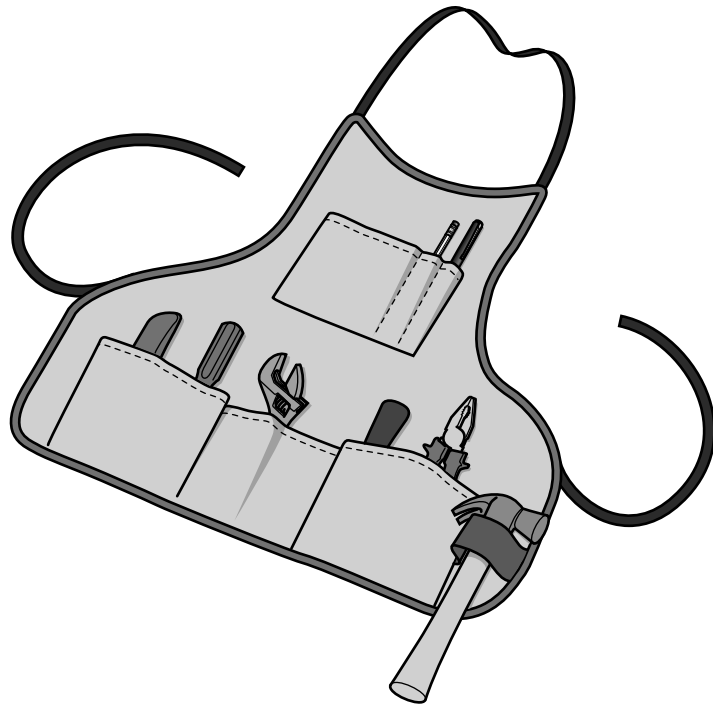

Fig. 12
Fig. 12 shows a work apron.
(a) Give **four** justified design requirements for a work apron of the type shown in Fig. 12.
(e) The work apron shown in Fig. 12 is made from closely woven polyamide fabric.
- (ii) Describe, in detail, how the work apron shown in Fig. 12 would be manufactured as a batch of 1000.